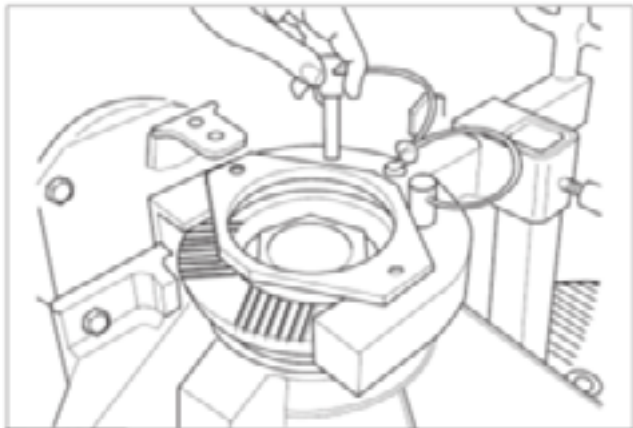

Fig. 4.14
9. Imobilize o flange com a ferramenta MST4400 - CT13 (Fig. 4.14)